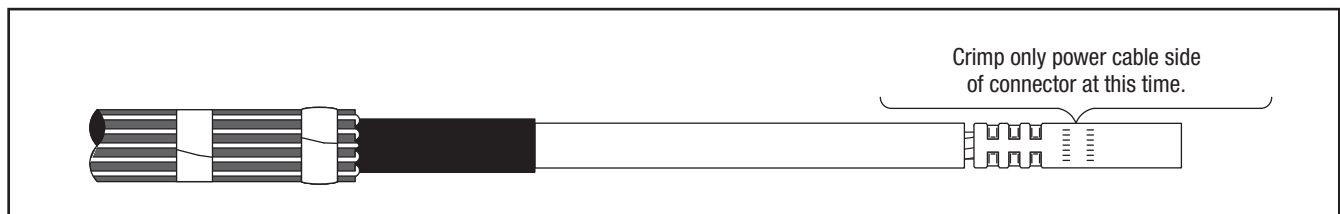

Figure 4
3.1 Check to insure 3M Cold Shrink QT-III Silicone Rubber Termination assembly fits over the selected connector or lug BEFORE installing the connector or lug. If connector or lug (Figure 4) will not fit through the termination core, clean the insulation (per Step 4.0) and slide termination on cable before installing connector or lug. **DO NOT REMOVE CORE AT THIS TIME.**